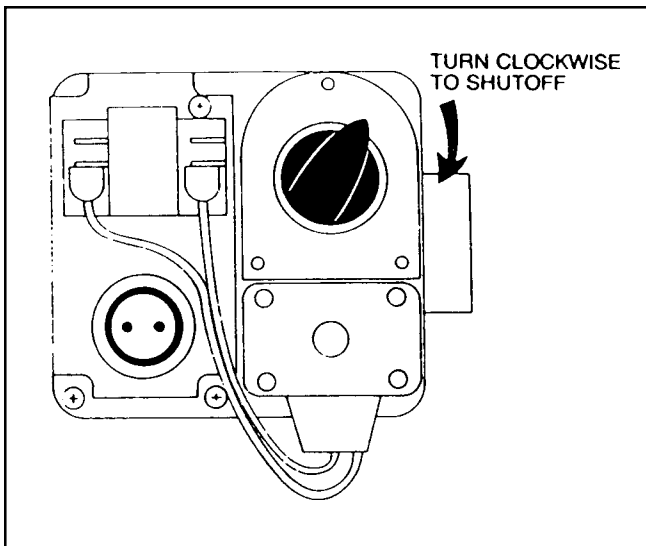

Figure 11. Manual gas shutoff.
2. Open gas cock(s) and open manual gas shutoff valve by turning to "on" position (see Figure 11).
1. Close the gas cock or manual gas shutoff (see Figure 11) and shut off the main disconnect switch.